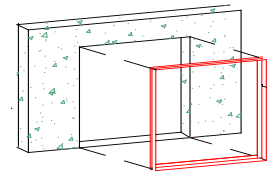

Figure 2
11. Immediately prior to installing the frame, apply a continuous 1/2" bead of compatible sealant to the backside (interior) of the mounting flange (nail-fin) at the jambs and head. Insert the door frame into the opening and set the sill in a full bed of sealant and tight with the lock jamb side trimmer. (See fig. 2)